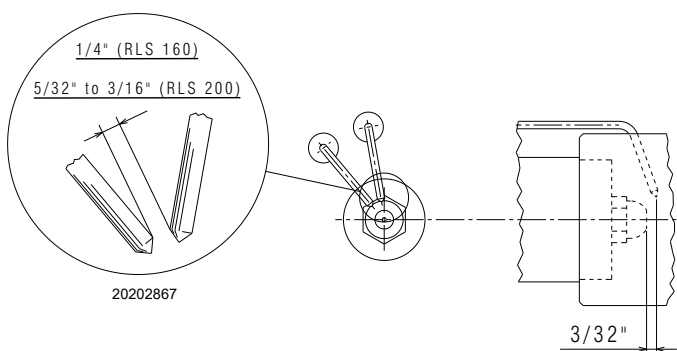

Fig. 24
- The nozzle for low fire operation is the one lying beneath the firing electrodes (Fig. 24).
- Make sure that the electrodes are positioned as shown in Fig. 24.
Make sure that the electrodes are positioned as shown in Fig. 24.